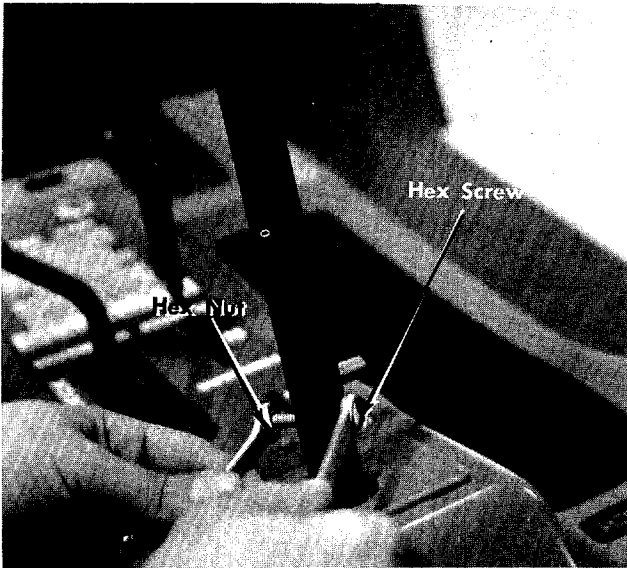

FIGURE 2. STEERING ASSEMBLY
3. Hold up the shaft assembly. Place the steering tube assembly on the shaft and start the hex screw through the hole. See figure 2.